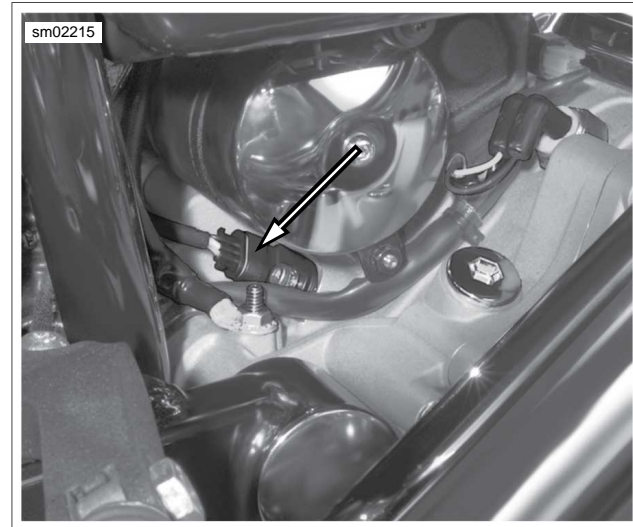

Figure 8-54. Vehicle Speed Sensor and Connector [65]
2. See Figure 8-54. Disconnect the vehicle speed sensor connector [65].
1. See Figure 8-54. Install sensor into transmission case using mounting bolt. Tighten bolt to 84-108 **in-lbs** (9.5-12.2 Nm).